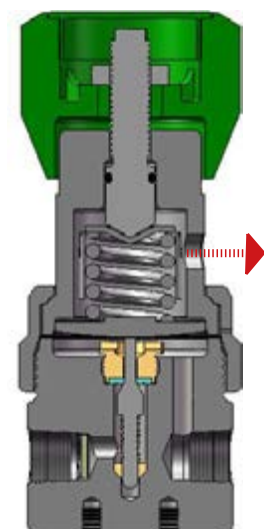

Figure 3: Regulator with closed emergency-venting
- On pressure regulators with closed casing caps, lateral venting holes offer additional safety. Should the membrane break or the piston malfunction, the escaping medium can be directed in a controlled manner (closed emergency-venting option). (Figure 3)